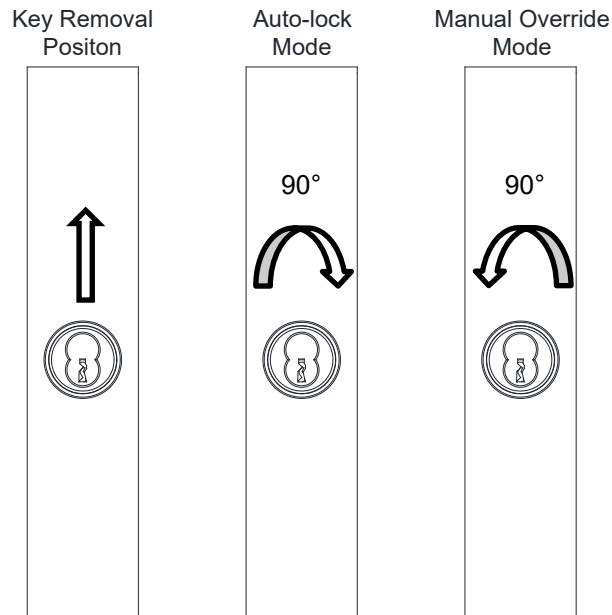

Figure 8
9. The door can now be commissioned. Below are the different modes of operation which may be required during the commissioning process. See **Figure 8**